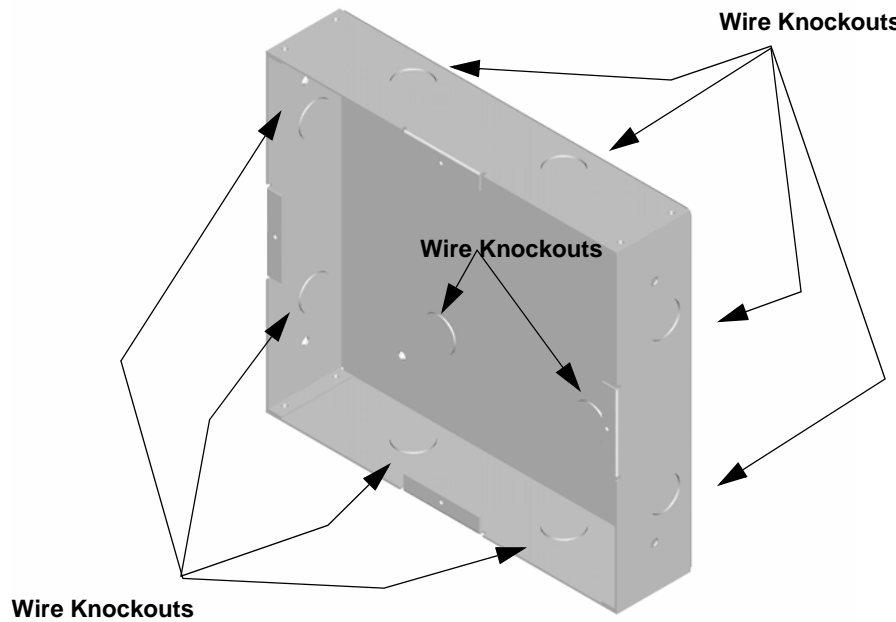

Figure 4-18 Back Box Knockout Locations
2. Remove knockout holes as needed for wires. See Figure 4-18 for backbox knockout locations